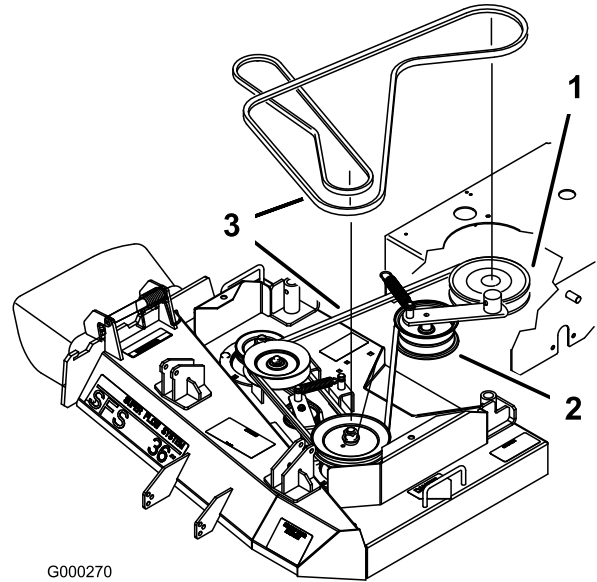

Figure 52
6. Remove the idler spring from idler arm. Remove the drive belt from the PTO clutch pulley, idler pulleys and the left spindle pulley (Figure 52).
7. Install the new drive belt onto the PTO engagement pulley and the top groove of the center spindle pulley (Figure 52).
8. Install belt onto idler pulleys and then install idler spring (Figure 52).